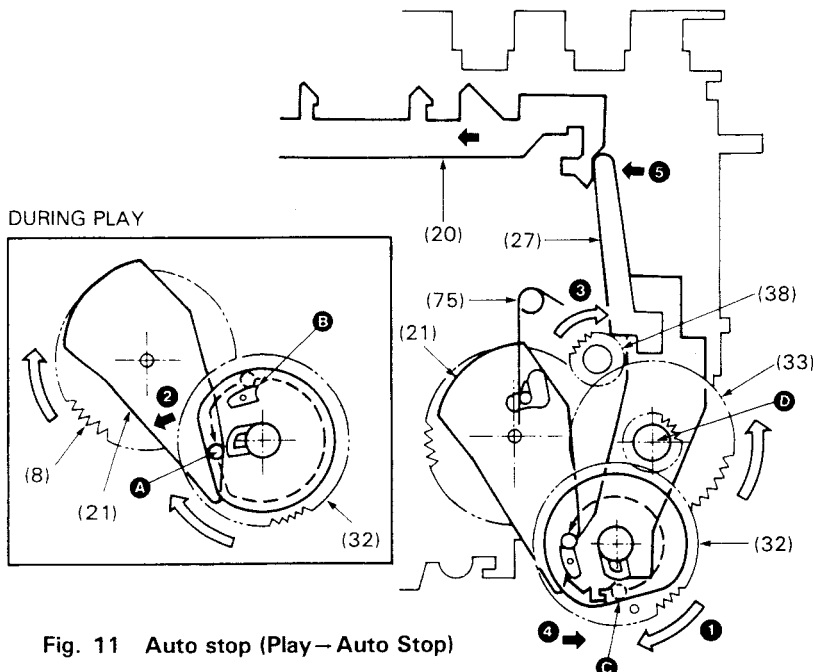
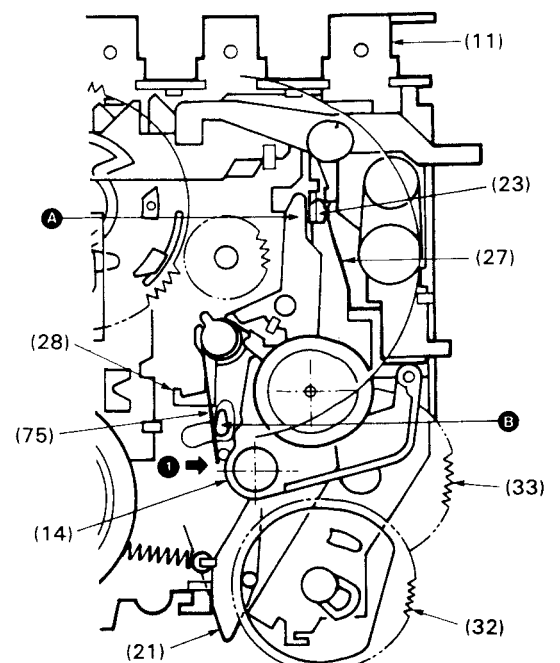

Fig. 11 Auto stop (Play – Auto Stop)
Fig. 12 Auto stop (During STOP & PAUSE)
6. Auto Stop Operation (See Fig. 11)
- 6-1. The AUTO CAM (32) is rotated by the FLYWHEEL (7) via AUTO PULLEY (38) and AUTO GEAR (33) in the direction of ➡ ①.
- 6-2. The AUTO SENSOR LEVER (21) comes contact with the bottom of the T REEL ASS'Y (8) through the REEL WASHER (109), SPRING (66) and the T REEL SLIDER (108).
- 6-3. In the play mode, the boss (A) at the edge of the AUTO SENSOR LEVER (21) is swung in the direction of ➡ ② by the rotation of the T REEL ASS'Y (8).
- 6-4. Since the boss (A) of the AUTO SENSOR LEVER (21) moves around the inner edge of the AUTO CAM (32), it is not engaged with the protrusion (B).
- 6-5. When the T REEL ASS'Y (8) stops rotating, the boss (A) of the AUTO SENSOR LEVER (21) is moved to the center of the AUTO CAM (32) by the bank section (C) of the AUTO CAM (32) and is engaged with the protrusion (B).
- 6-6. The BOSS A of the AUTO SENSOR LEVER (21) is locked with the PROTRUSION B of the AUTO CAM (32). In this situation, the AUTO PULLEY (38) continues rotation in the direction of ➡ ③ so that the AUTO CAM (32) is moved in the direction of ➡ ④ with the point D of the AUTO GEAR (33) as the point of support.
- 6-7. The end of the AUTO ARM (27) is moved in the direction of ➡ ⑤ and moves the LOCK CAM LEVER (20) to release it. (See Fig. 12.)